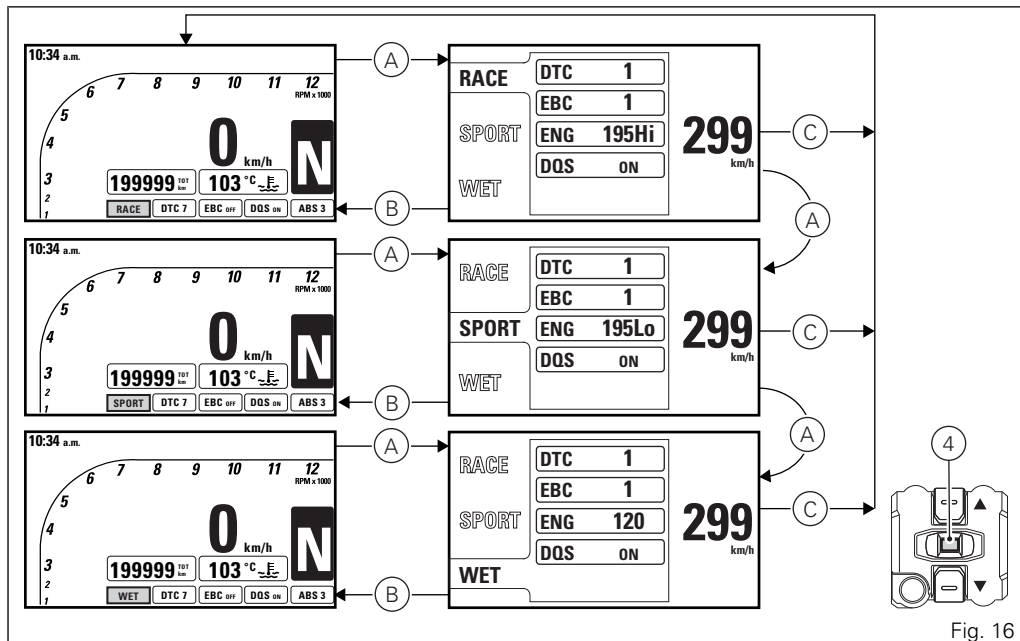

Fig. 16
CONFIRM MENU button (4) is pressed, you highlight a riding mode and the associated parameters are displayed (A, Fig. 16).
Once the desired riding mode is highlighted, confirm the selection by holding down the CONFIRM MENU button (4) for 2 seconds: the new riding mode selection is stored and the Standard Screen is displayed (B, Fig. 16).
Once the desired riding mode is highlighted, if the CONFIRM MENU button (4) is not pressed within 10 seconds, the new riding mode selection is not stored and the Standard Screen is displayed (C, Fig. 16).